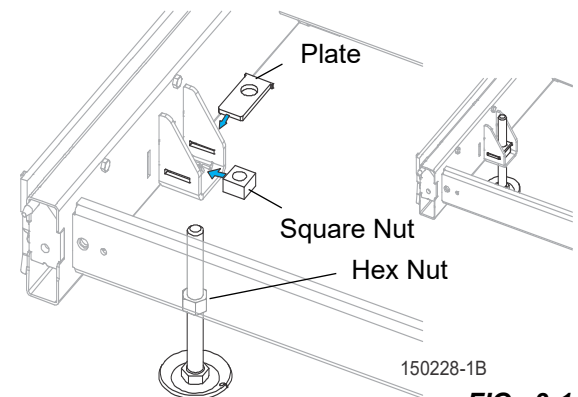

FIG. 3-1
4. Thread each leg through the bracket, the square nut, and the plate. (See FIG. 3-1.)